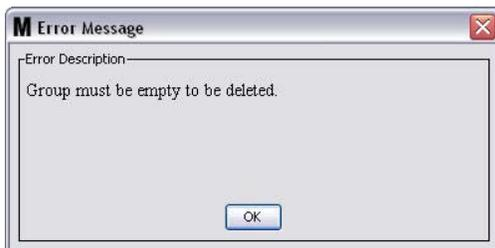

FIG. 143
- a. If there are tanks and/or meters in the Group Folder the Error Message box in FIG. 143 displays reminding you that the folder must be empty before you can delete it. Click OK to close the screen and save the changes.